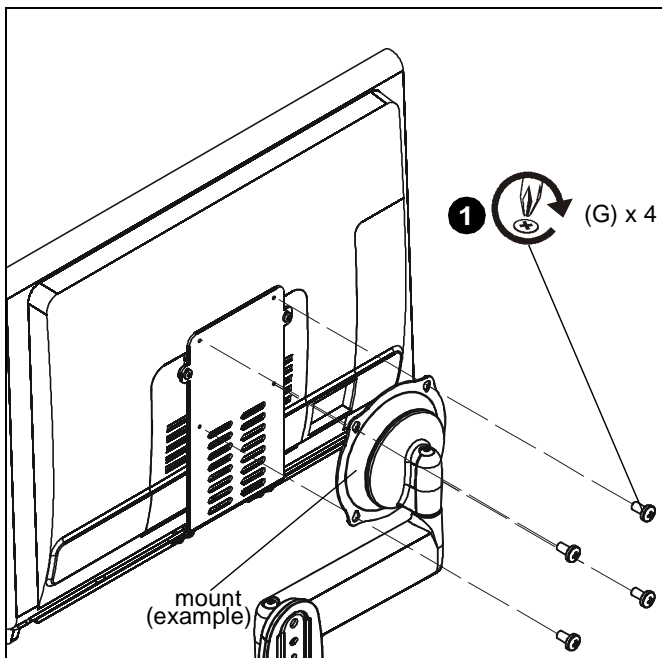

Figure 7
1. Attach connection plate (A) to mount using four M4 x 8mm Phillips pan head screws (G) on mounts not requiring mounting buttons. (See Figure 7)